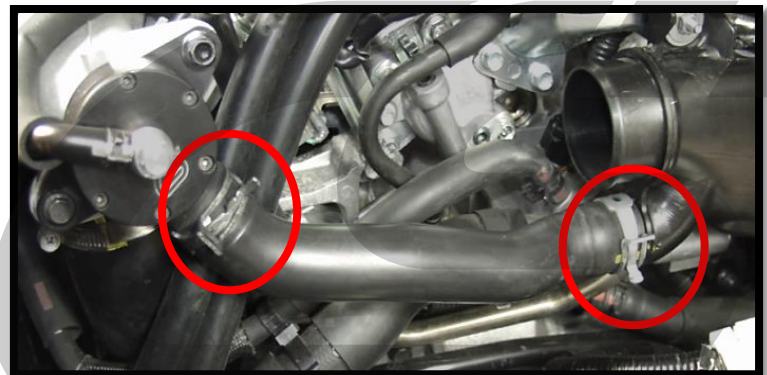

Figure 3a
- a) **Using pliers, release the hose clamps** (**red circles** in **Figure 3a**) located on the **bypass valve hose**. Remove the hose from the car and save if you are re-using it. You can discard the rubber hose and spring clamps if you will be installing the optional CorkSport Silicone BPV Hose.